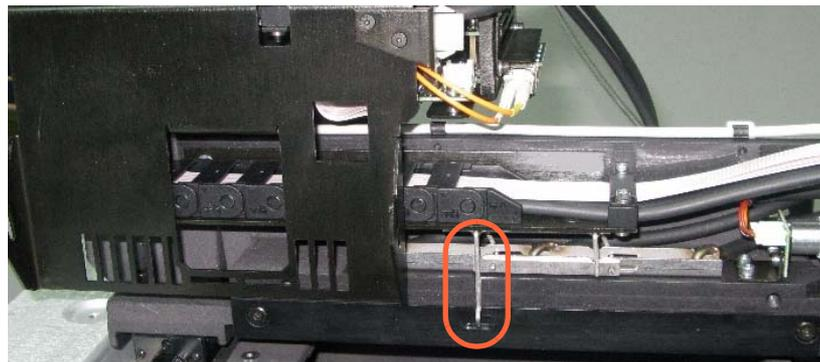

Figure 7-40: Roller-waste-collector locking pin
3. Turn the locking pin clockwise, to lower the drain-tube bracket onto the roller waste collector, and secure the pin in its socket (see figure 7-40 on page 29).